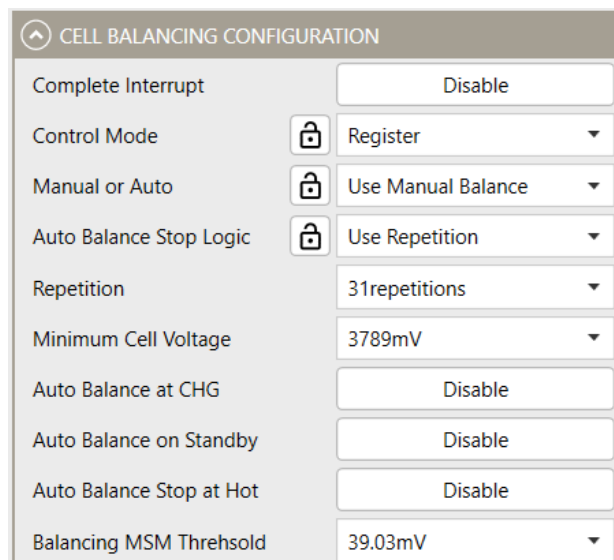

Figure 21: Cell-Balancing Configuration
16. Figure 21 shows how to configure the cell-balancing parameters.